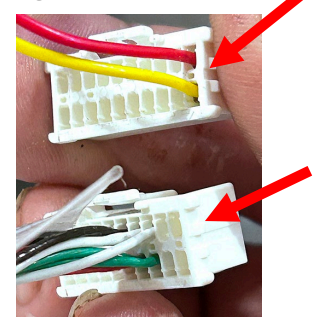

Figure 4
7. Locate the new VIB harness in the kit. Orient the connector removed in the previous step and the connector in new harness in the same orientation, with the lock clasp towards the top (see Figure 4).